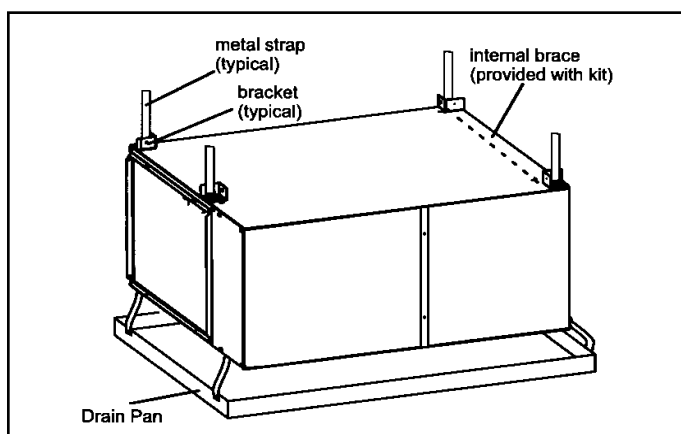
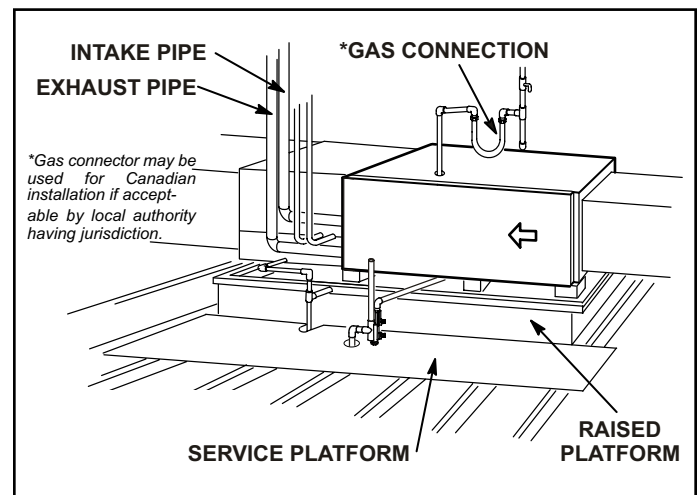

Figure 19. Typical Horizontal Application
Figure 20.
This furnace may be installed in either an attic or a crawl space. Either suspend the furnace from roof rafters or floor joists, as shown in Figure 19, or install the furnace on a platform, as shown in Figure 20. A horizontal suspension
2. Construct a raised wooden frame and cover frame with a plywood sheet. If unit is installed above finished space, fabricate an auxiliary drain pan to be installed under unit. Set unit in drain pan as shown in Figure 20. Leave 8 inches for service clearance below unit for condensate trap.